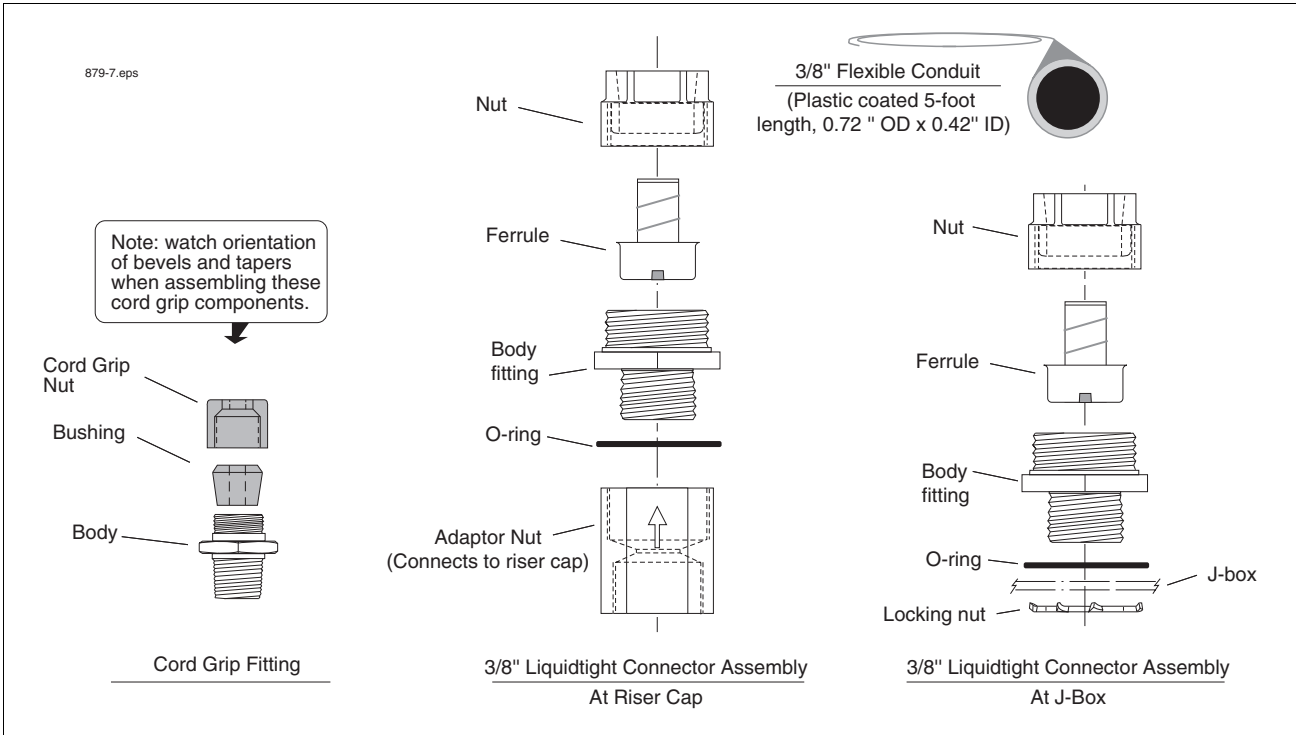
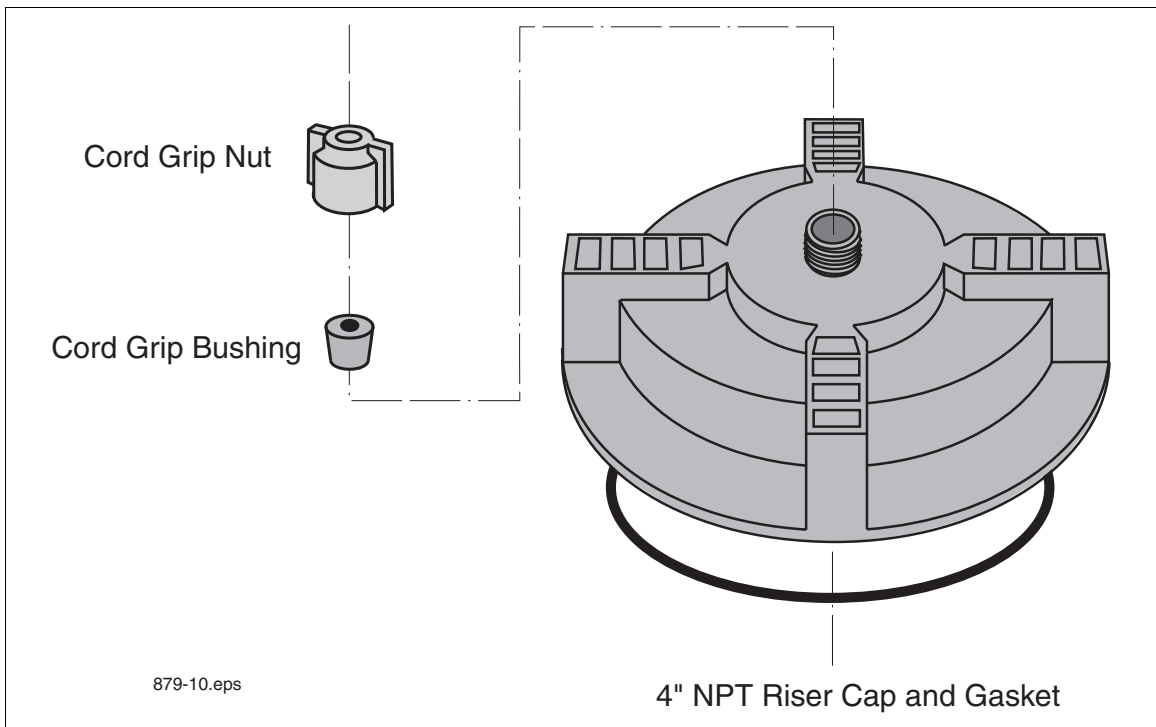
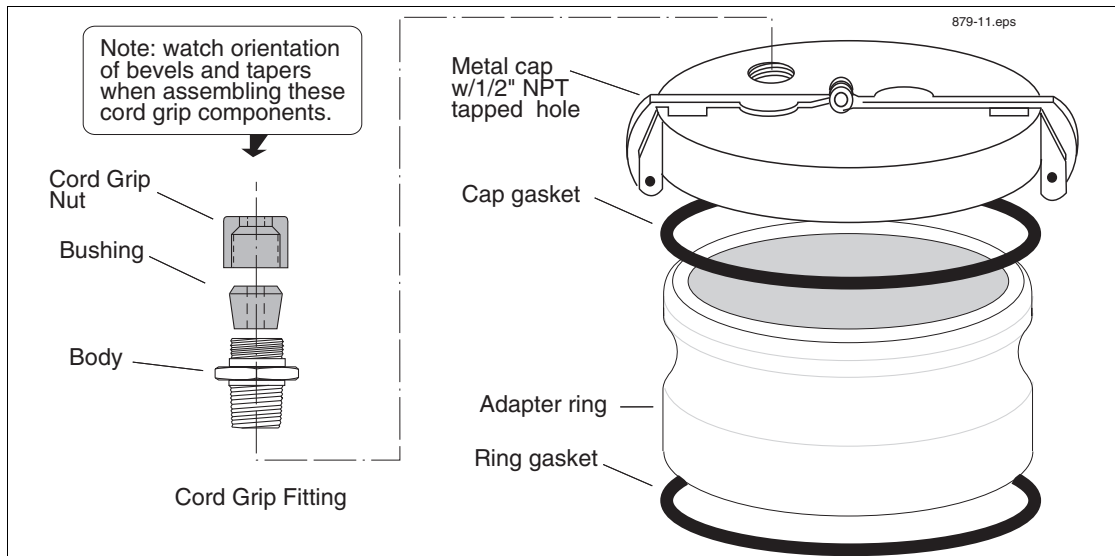

Figure 10. Mag Probe AST Installation Kit
Figure 13. Cap And Cord Grip Kit
Figure 14. Metal Cap And Ring Kit
This kit is recommended when installing Mag Probes into an above ground storage tank (AST). This kit contains a length of flexible conduit, connectors, etc., for easier probe access. The kit contents are listed in Table 6 and shown in Figure 10.
This Riser Cap kit (Table 9) contains a non-metallic cap which screws onto the 4" NPT riser (Figure 13). The cap comes drilled and tapped with a cord grip.
This riser cap kit contains an adapter ring which screws onto the 4" NPT riser and a quick-release metal cap which clamps onto the ring (Table 10). The cap comes drilled and tapped with a cord grip (Figure 14).
1. If you are using the one piece cap (see Figure 13 on page 22), push the end of the probe cable through the cord grip bushing and nut on the cap, leaving a minimal amount of slack between the probe and cap. Screw the cap onto the riser by hand until the gasket first contacts the pipe. Then lightly tap the cap with a hammer to tighten it an additional 3/4 turn. Go to Step 3.
2. If you are installing the metal cap and adapter ring (see Figure 14 on page 23), screw the ring onto the 4" riser until the gasket contacts the pipe, then use a pipe wrench to tighten it an additional 3/4 turn. Push the cable through the metal cap and cord grip, then clamp the cap onto the ring.
1. If you are using the one piece cap (see Figure 13 on page 22), push the end of the probe cable through the cap and cord grip bushing, leaving a minimal amount of slack between the probe and cap. Discard the cord grip nut and attach the Adaptor Nut from the AST kit to the cap (see Figure 10 on page 19). Tighten the Adaptor Nut until the cable is held firmly. Go to Step 3.
2. If you are installing the metal cap and ring (see Figure 14 on page 23), screw the ring onto the 4" riser until the gasket contacts the pipe, then use a pipe wrench to tighten it an additional 3/4 turn. Using UL-classified pipe sealant (suitable for the fuels involved), screw the cord grip fitting into the tapped hole and tighten. Place the cord grip bushing in the fitting. Discard the cord grip nut and loosely screw the Adaptor Nut from the AST kit onto the cord grip fitting (see Figure 10 on page 19). Push the cable through the metal cap, bushing, and Adaptor nut, then clamp the cap onto the ring. Make sure there is a minimal amount of slack between the probe and cap, then tighten the Adaptor Nut until the cable is held firmly.
3. Next assemble the liquidtight connectors on both ends of the flexible conduit as shown in Figure 10. Push the cable through the flexible conduit assembly and into the J-box. Connect the flexible conduit assembly to the Adaptor Nut on one end and the J-box on the other.